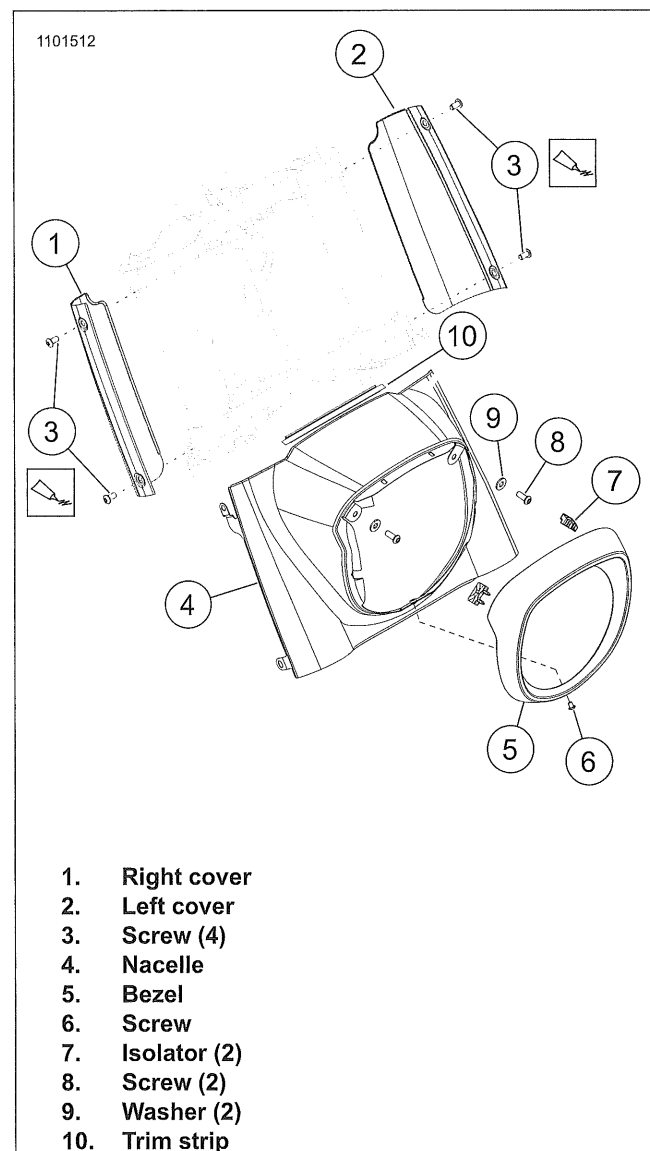

Figure 3-105. Nacelle Mounted
1. See Figure 3-105. Remove screw (6).
1. See Figure 3-105. Inspect trim strip (10). Replace if necessary. See MEDALLIONS, BADGES, TANK EMBLEMS AND ADHESIVE STRIPS (Page 3-147).
2. Install nacelle (4) and right cover (1).
3. Apply threadlocker and install screws (3). Tighten.